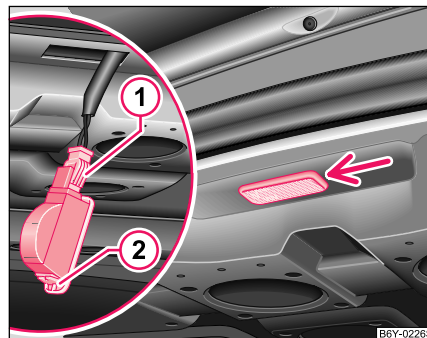

Fig. 168 Remove the boot light (sedan)
- Insert a screwdriver into the slot under the light ⇒ **fig. 168**.